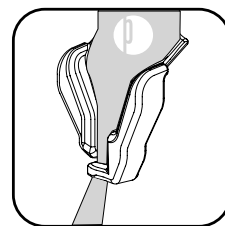

Figure 9
13. Loop sleeve through hook feature in Plastic Handle (Fig. 9)
2. The Sleeve must be woven into the bottom portion of the plastic handle (Figure 9).